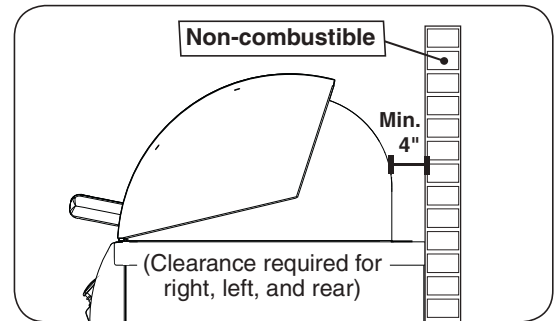

Fig. 11-2 Clearance 'A' Diagram
A. Clearance between grill and strictly non-combustible wall (i.e. brick wall, see Fig. 11-2)